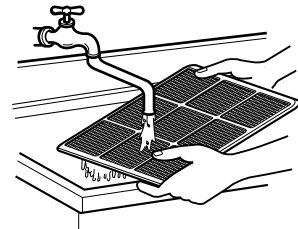

Fig. 2
2. Wash the Air Filter in warm 104°F(40°C) water. (Fig. 2)